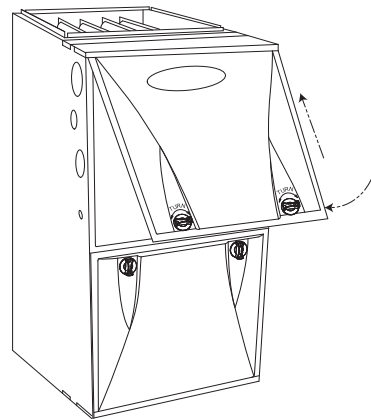

Fig. 12 – Furnace Door Replaced (Upflow Configuration)
- Replace main furnace door (see Fig. 12).
6. Replace main furnace door (see Fig. 12).